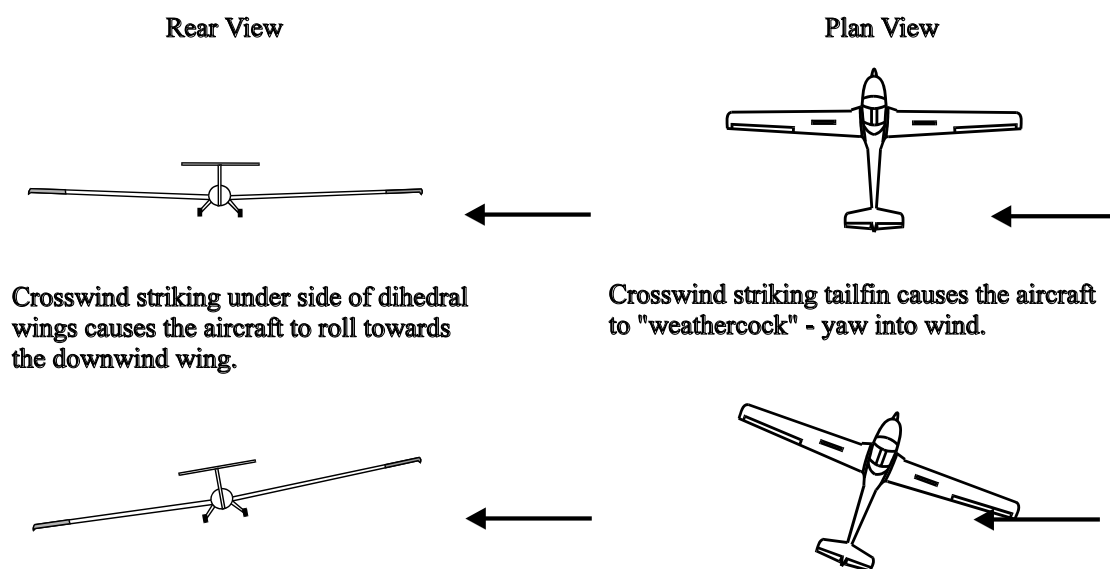

Fig 21. Effect of crosswind on ground run.
4. **Take-off.** On the ground run of the take-off it is important to keep the wings level and maintain a straight track. The crosswind will try to lift the into wind wing and also weathercock the aircraft. See fig 21.
7. **Roundout and Landing.** During the roundout it is initially necessary to maintain the offset heading to prevent the aircraft from drifting, however if the aircraft is landed with this offset heading still applied significant damage may occur. Therefore as the aircraft is placed into the landing attitude the rudder is used to yaw the aircraft straight (such that its track and heading coincide). Whilst the aircraft is being yawed straight it will be necessary to hold the wings level using opposite aileron to overcome the further effect of the rudder (roll in the same direction as the yaw). If the yaw is timed well the aircraft will touch down without any drift and a crosswind landing will have been successfully achieved. Once on the ground the same considerations apply as to the take-off ground roll (fig 21). These effects will become more noticeable and require larger control inputs to correct as the aircraft's speed reduces and the controls become less effective. It is very important not to lock the wheel brakes on during the ground roll as the aircraft will skid whilst yawing into wind resulting in a rapid loss of control.